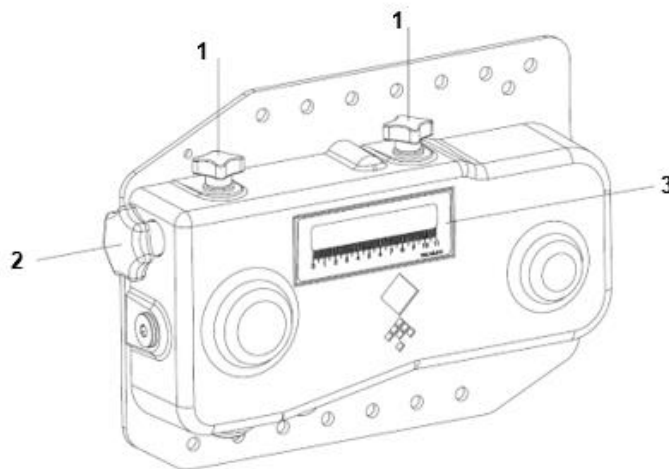

Figure 5
1. Loosen the stellar knobs (1) (see **Figure 5**).
2. Rotate the stellar knob (2) to change the settings. You can see the settings on the sticker (3).
3. Retighten the stellar knobs (1).